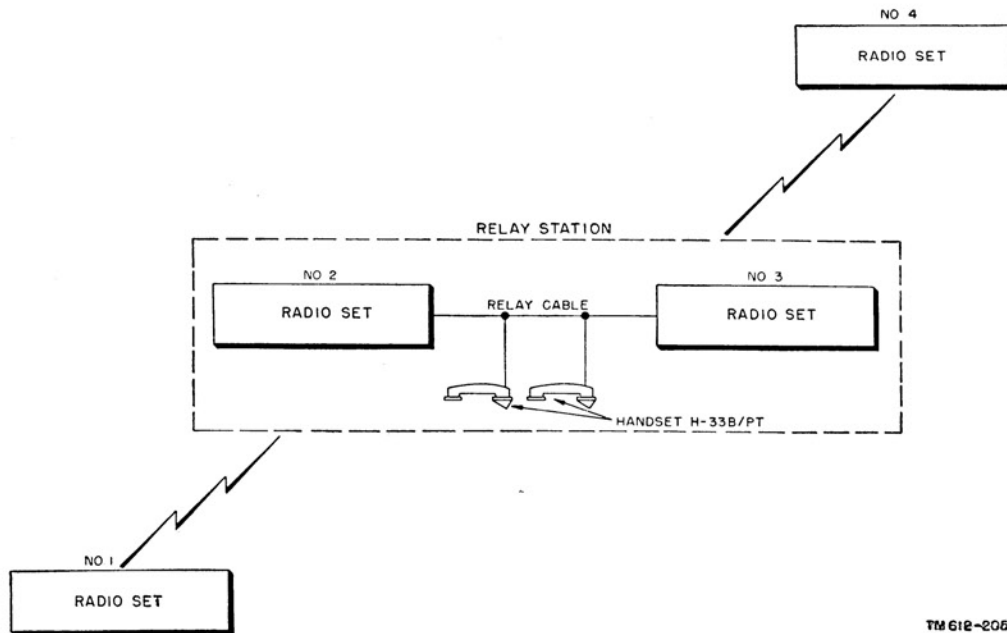

Figure 15. Relay operation, system application.
Figure 15 shows how two radio sets are operated as a relay station. Set No. 2 is tuned to the same frequency as set No. 1, while set No. 3 is tuned to the same frequency as set No. 4. The frequency of sets No. 1 and 2 must differ from the frequency of sets No. 3 and 4 by a few mc. With this arrangement, signals transmitted by set No. 1 are received by set No. 2 and passed through the relay cable to set No. 3, which retransmits the signals to set No. 4. Similarly, signals transmitted by set No. 4 are retransmitted by the relay station to set No. 1.
*b.* Place set No. 2 in operation (par. 17), using the handset which is near it (fig. 15), and calibrate as described in paragraph 18. Repeat this procedure with set No. 3, except that the frequency to which this set is tuned should be a few mc off that of set No. 2. The two sets can now operate unattended as a relay station.